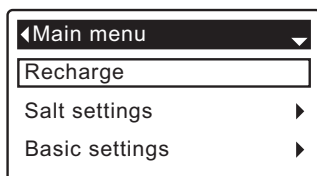

FIG. 23
During normal operation (status screens rolling), press the softener's SELECT (O) button to display the Main menu (See Figure 23). This menu and its subsidiary screens are used to control these operations: